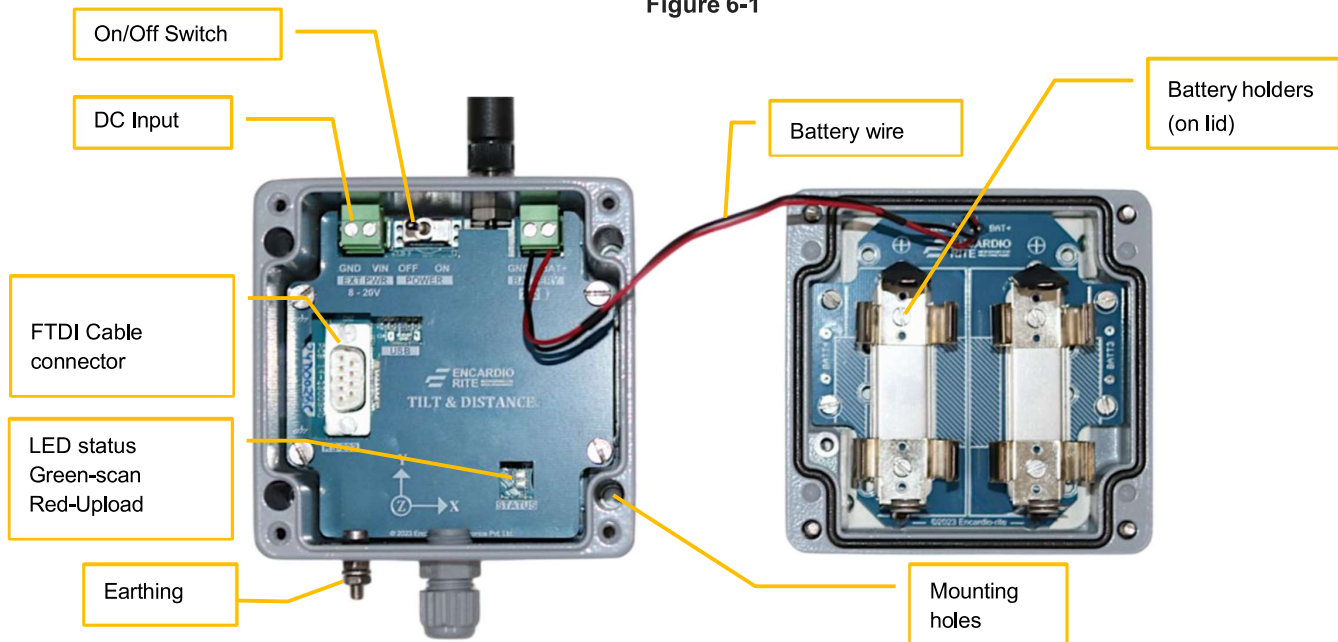

Figure 6-2 Wireless TiltRange details
- Open the top cover with screw driver. Description of each part of the TiltRange is given in the figure 6-2.